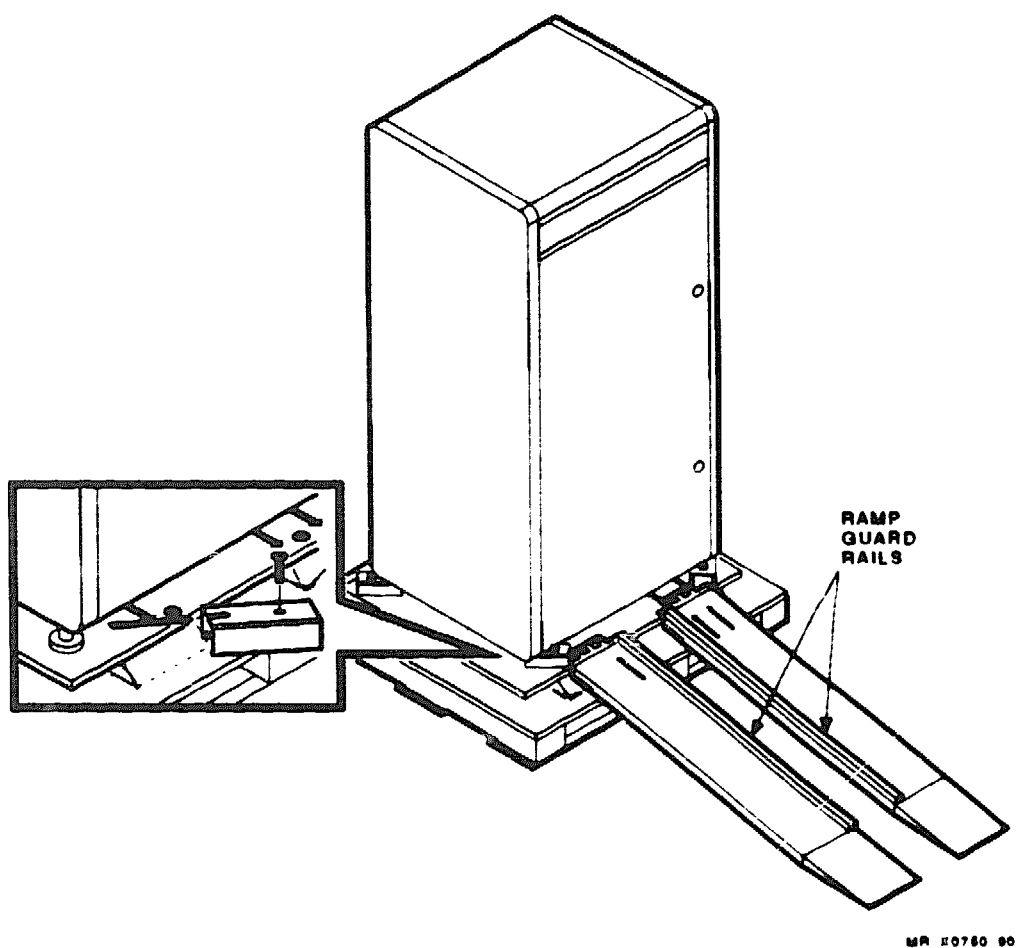

Figure 1-3 Deskidding Preparations
18. Verify that the number of the ramp arrows match with the number of the skid arrows. This ensures that the ramps are on the correct side, with the ramp guard rails on the inside. Place the brackets on the edge of the skid, placing the tabs in the skid holes and press into place using your foot (Figure 1-3).